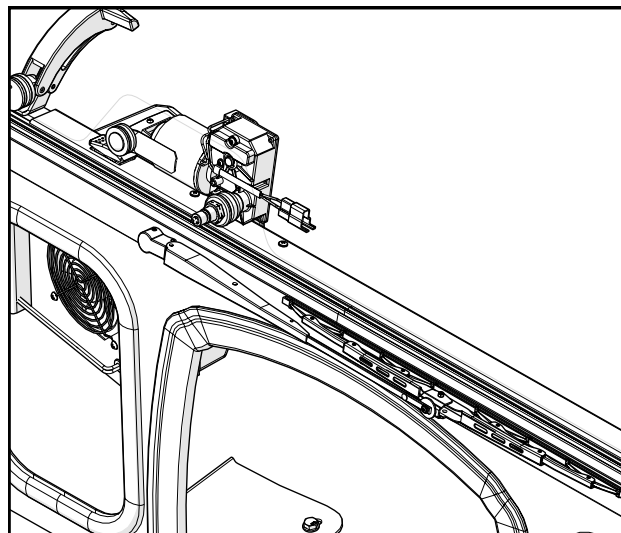

Fig. 18.3 (Install Wiper Arm and Wiper)
18.3 Install the wiper arm onto the wiper motor so that the wiper is horizontal. See Figure 18.3. Tighten the Allen Screws.